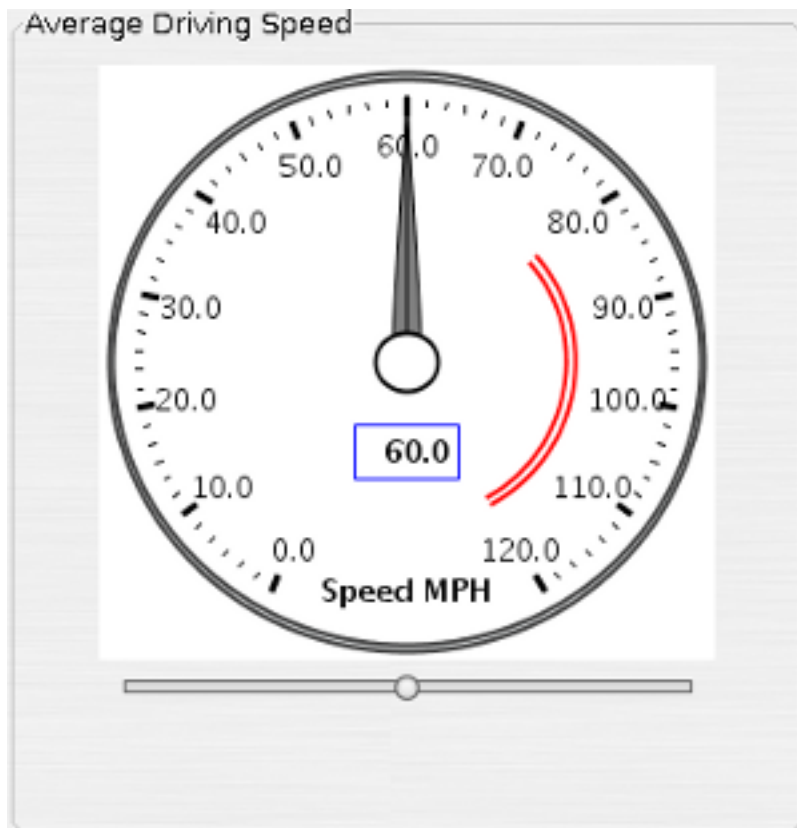

Figure 11.4. Average Speed Setting
2. Under the "Average Driving Speed" section there will be a graphic that looks like a large speedometer. Just under the speedometer graphic is a small round knob. To change the driving speed drivers need to left click and hold their mouse button while moving their mouse to the left to lower the speed or to the right to increase the speed see Figure 11.4, "Average Speed Setting".